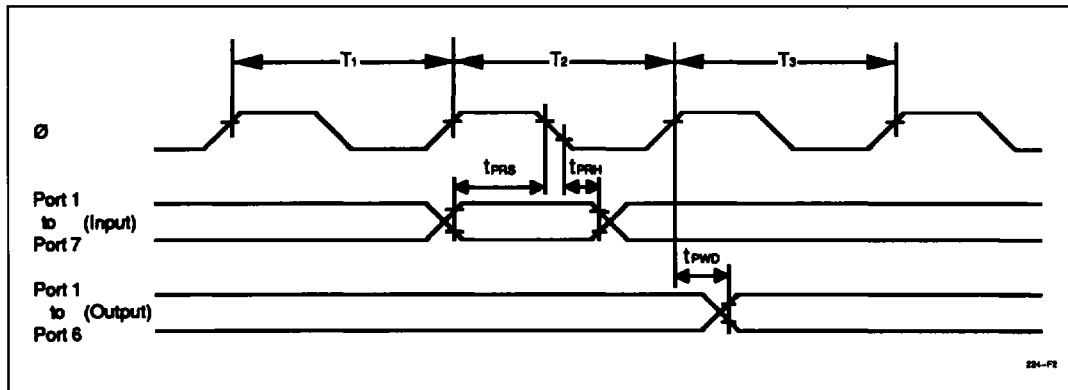

Figure 14-17. I/O Port Input/Output Timing
14.3.6 I/O Port Timing	Figure 14-17